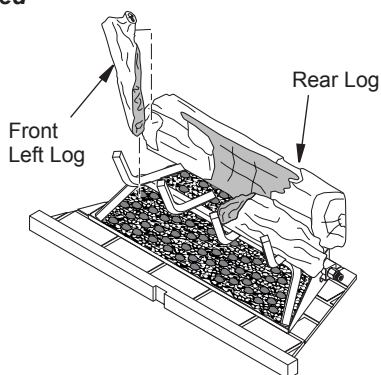

Figure 28 - Installing Log 3
3. Rest front of front left log between first two grate fingers on left of grate assembly and rear into notch on left front of rear log (see Figure 28).